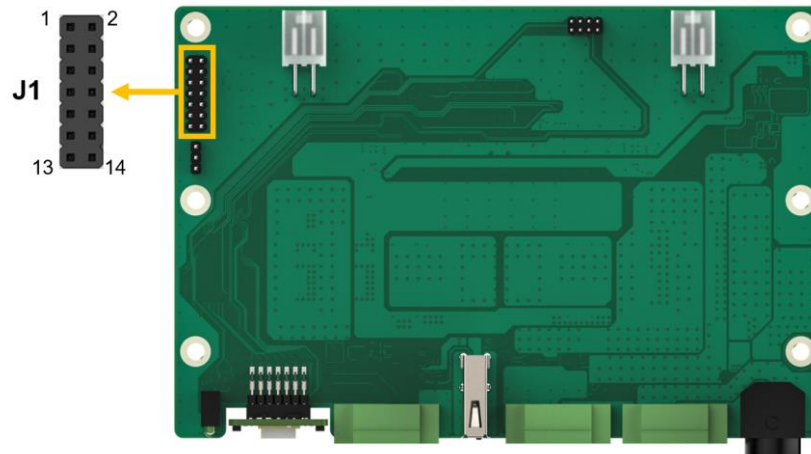

Figure 3-13: Firmware programming connector Location
- CN Location:** See **Figure 3-13**